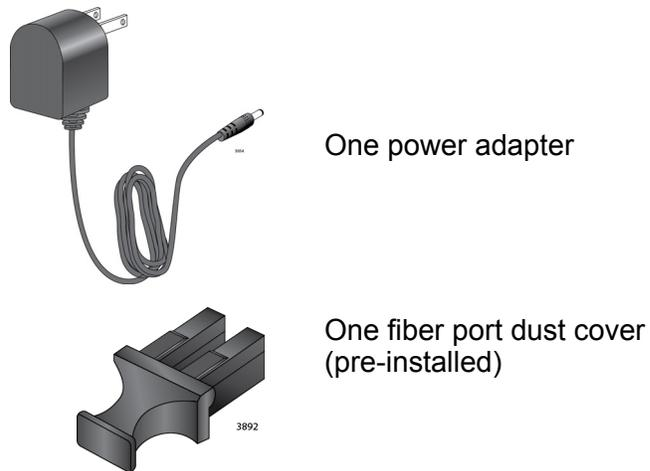

Figure 17. MMC2000/200/LC Series and AT-MMC2000/LX/LC Shipping Package Contents
- Figure 17 shows shipping container items for the MMC2000/200/LC series and AT-MMC2000/LX/LC media converters.